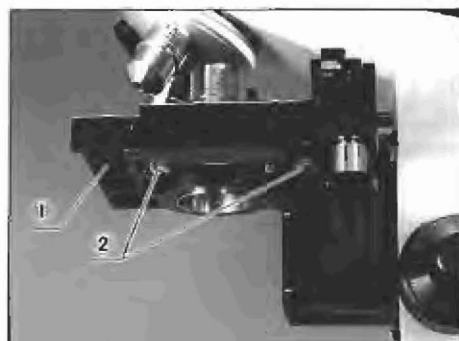

Fig. 7
Place the mechanical stage on the plain stage (1), with the specimen traversing guide closest to the microscope pillar, and tighten the stage clamping knobs (2) with a coin. (Fig. 7)